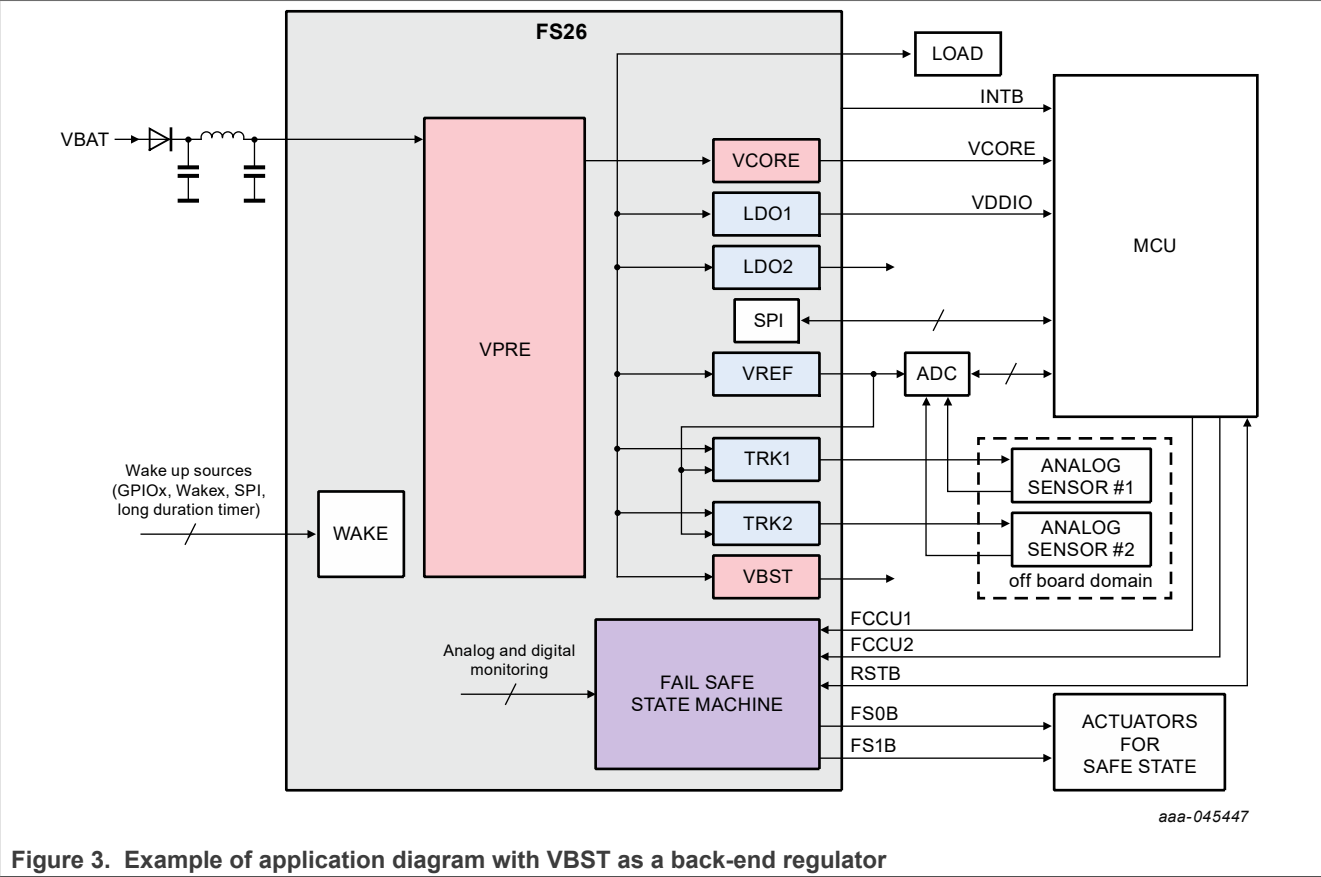

Figure 3. Example of application diagram with VBST as a back-end regulator
**Figure 3** shows a simplified block diagram for a typical system with an FS26, using the boost controller to generate a voltage above the high-voltage buck output voltage.